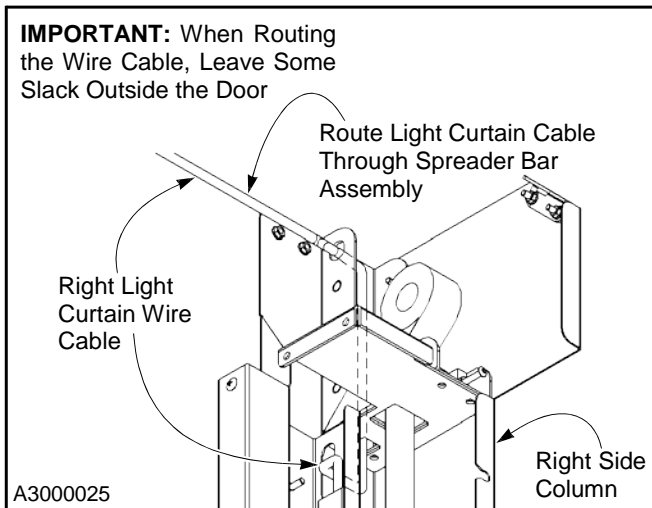

Figure 30
1. Feed the right light curtain module wire cable through the side column, spreader bar assembly, and left side column. Take the path detailed. (See Figure 30.)
IMPORTANT: Route the light curtain module cable away from any moving parts and provide an adequate amount of slack outside the door for easier service later on. (See Figure 30.)